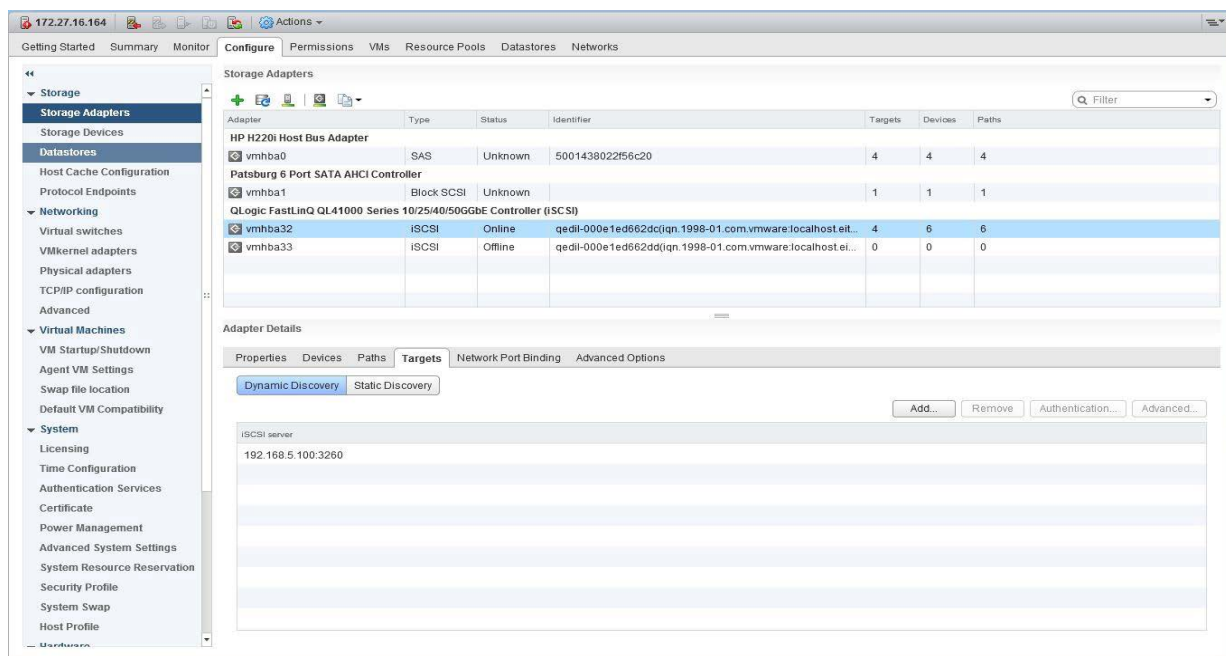

Figure 3-7. Dynamic Target Configuration Added
- ☐ After dynamic configuration is added, it is listed under **Adapter Details**, Targets page, Dynamic Discovery, as shown in Figure 3-7.